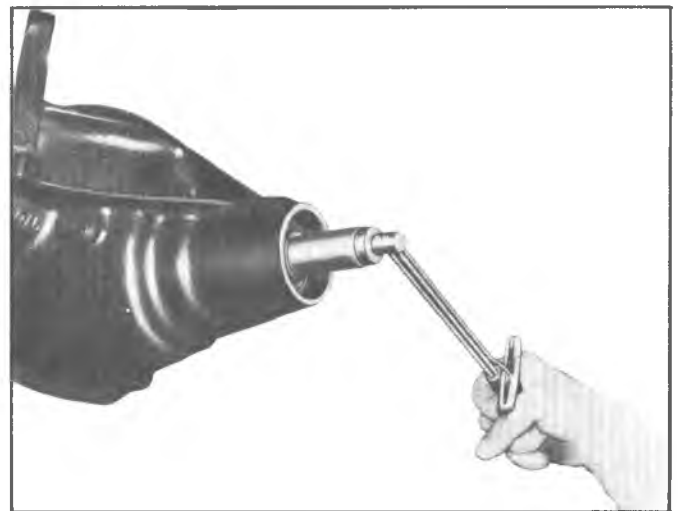

Fig. 20B—Measuring Rotating Torque
4. Hold the preload stud stationary with a wrench on the flats and tighten hex nut. Tighten until 20 in. lbs. of torque are required to rotate the bearings, as shown in figure 20B.